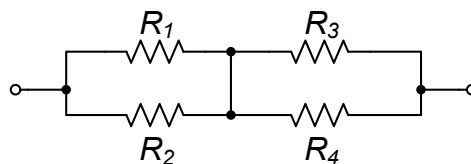

Figure 1: Solder four resistors as shown in the diagram.
4. Solder the four resistors as shown in Fig. 1. Calculate the total resistance of the combination using the measured values of resistors. Measure the total resistance of the combination, R_T , using your multimeter. Comment on any difference.